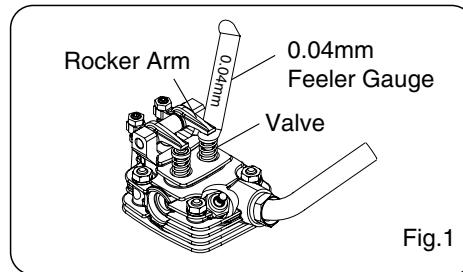

Fig.1
3. The standard valve clearance, on both inlet and exhaust valves, is between 0.04mm and 0.1mm(0.0015-0.004 inch), measured between valve stem and rocker arm. Use the 0.04mm and 0.1mm feeler gauges to check clearances. (See Fig.1)